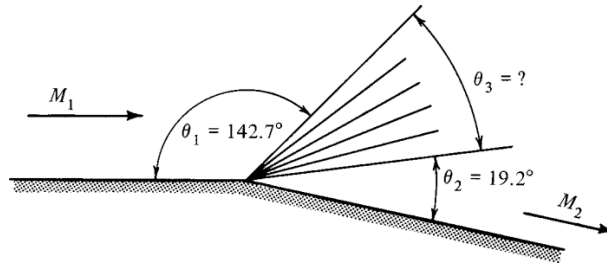

Figure P8.2
- 8.2** A Schleiren photo of the flow around a corner reveals the edges of the expansion fan to be indicated by the angles shown in Figure P8.2. Assume that $\gamma = 1.4$.
- (a) From Figure P8.2, we gain $\theta_1 = 147.2^\circ$, $\theta_2 = 19.2^\circ$.